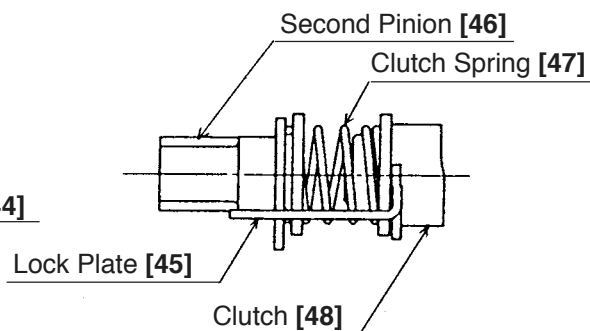

Fig. 14
- Pull out the Second Pinion [46], Clutch Spring [47], Clutch [48] and the Lock Plate [45] (these parts are sandwiched by means of the Lock Plate [45] as a unit as shown in Fig. 14) from the end of the Second Shaft [49]. Turn the Reciprocating Bearing [50] so that the Piston [39] is moved to its maximum upper position (Inner Cover [41] side). The arm of the Reciprocating Bearing [50] can then be disconnected from the Piston Pin [42], and the Second Shaft [49] and the components mounted on it can be removed from the Inner Cover [41] as a unit.